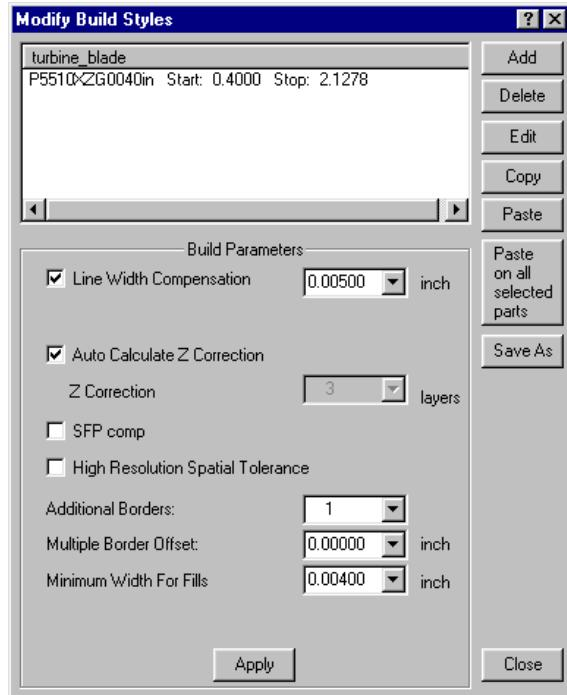

Figure 65. Modify Build Styles Dialog (SLA 5000)
- 3. Click the "Modify Build Styles..." icon on the "Build Toolbar". See Figure 65.**
To perform any of the button functions, you must first select the style to which you want to apply the function. You can select only one style at a time. The dialog in Figure 65 shows only one build style assigned to the part. This means that the entire part will use the same build style from start to finish. After selecting the style, you can perform the “Add”, “Delete”, “Edit”, “Copy”, “Paste”, and “Paste on All Selected Parts” functions, each of which is explained below.